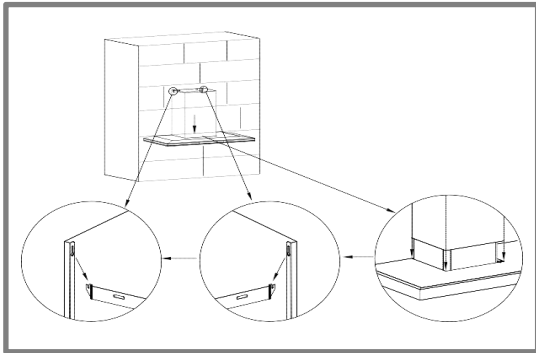
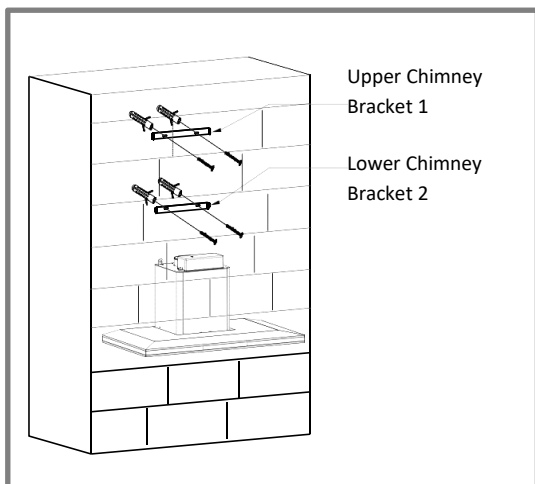
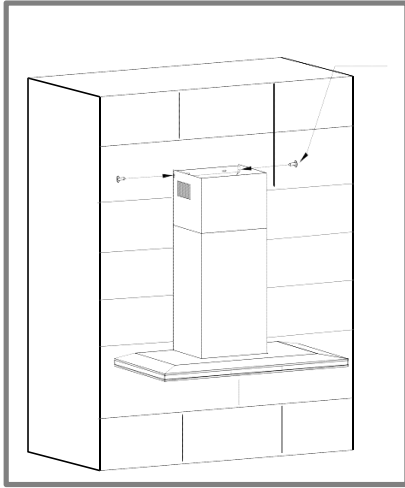

Fig.9
Fig.9.1
Fig.9.2
#### Step 4 (Fig.9, Fig.9.1, Fig.9.2)
- Secure the mounting bracket onto the screws firmly 1 & 2 and place the outer flue duct onto the appliances. (Fig. 9).
- Slide the outer flue duct section downwards, attached it to the left and right of the retaining bracket to engage it. (Fig. 9)
- Slide the inner flue duct to the required height and mark where the screws should be inserted and drill 8mm diameter holes to a depth of 40mm and secure the mounting bracket onto the screws provided. (Fig. 9.1)
- Use the provided ST4\*8 screws to attach the inner flue duct on the left and right sides of the bracket. (Fig. 9.2)